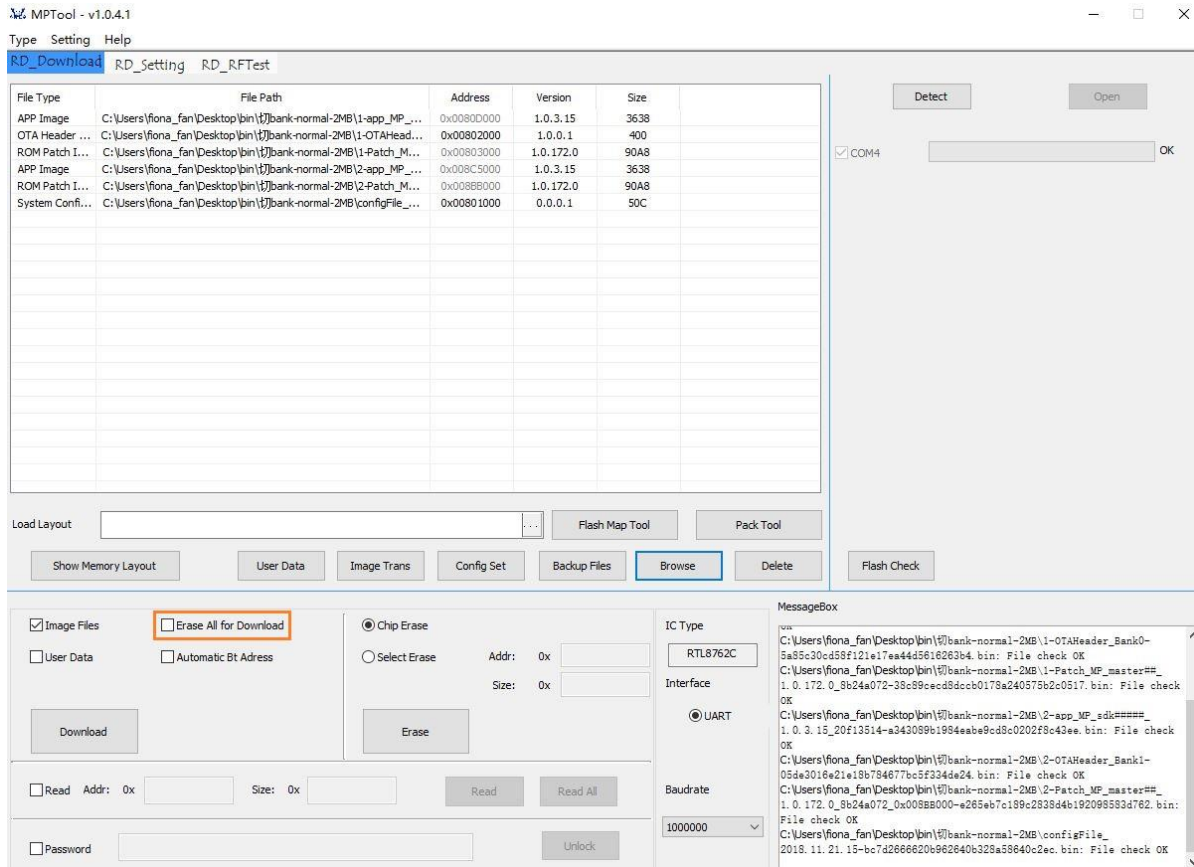

Figure 7-14 Select “Erase before Download”
- 6) Select “Erase All for Download” check box. It’s shown in Figure 7-14.